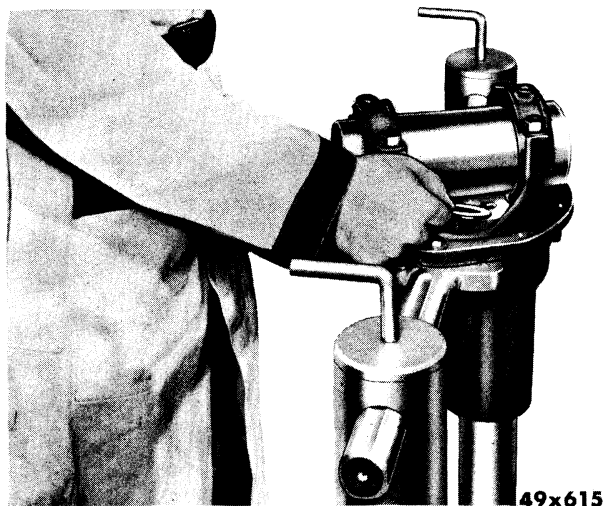

Fig. 38—Checking Spacer Washer Thickness
- (3) The distance between **gauge block** and **cross bore gauge bar** determines thickness of spacer washer to be used, as shown in Figure 38. The pinion washer to be used is obtained by finding the thickness of the washer that slides between the cross bore gauge bar and the gauge block with a slight drag. This washer will be the correct size for assembly, provided the pinion has no correction indicated on the small end of the pinion head. In manufacture, after the pinion is lapped in with the gear, the position of the pinion for best tooth contact is etched on the small end of the pinion head as a + or - number. This number is the number of thousandths of an inch between the "best bearing" position and the standard position. A +2 would indicate that the pinion should be located .002 inch farther
- (6) Select a pinion washer of sufficient thickness so that it will just pass between the gauge block end of the setting tool and the machined surface of the arbor, as shown in Figure 38.